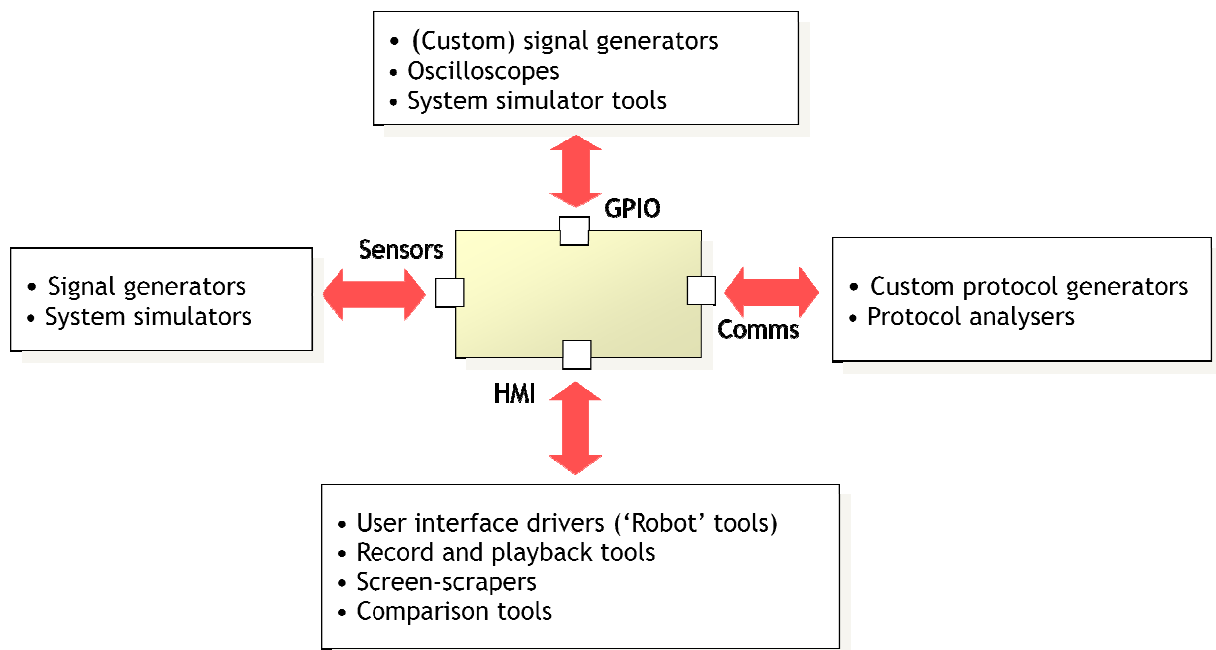

Figure 2 Potential tool requirements for testing an embedded system
- The tools available to test an embedded system (Figure 2)